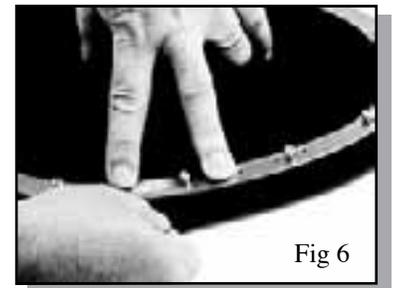

Fig 6
9) Lightly press down midway along the stepped ring and pull the neck dam through the rings enough to make the excess material about the same distance out from the rings as it is around the already screwed through area. (Fig 6) Once